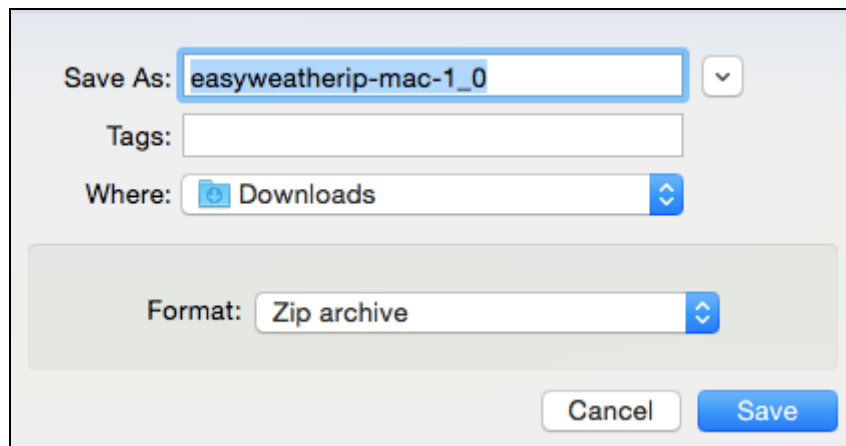

Figure 41
2. Save the compressed (zip) file to your local computer drive, as shown in Figure 41.